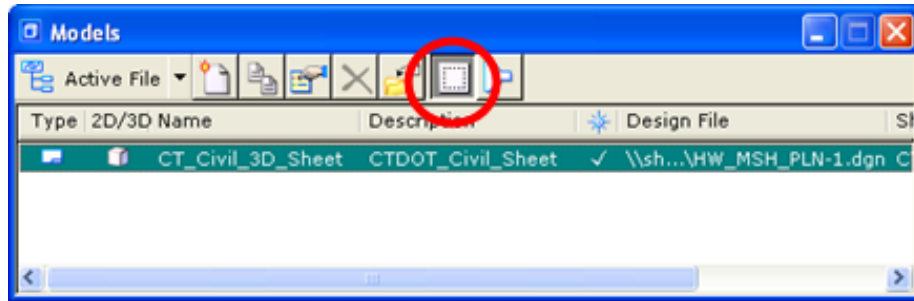

Figure 10-6 Models Dialog Box
- C. On the InRoads main menu go to **Evaluation > Create Profile**. The dialog box will appear as shown in Figure 10-6. Select the preference **Highway Profile Bdr Format**. Then select the Controls folder and change the bottom Window Clearance to **20**. Click the **Preferences** button and save this change to **Highway Profile Bdr Format**. Click **Close**.